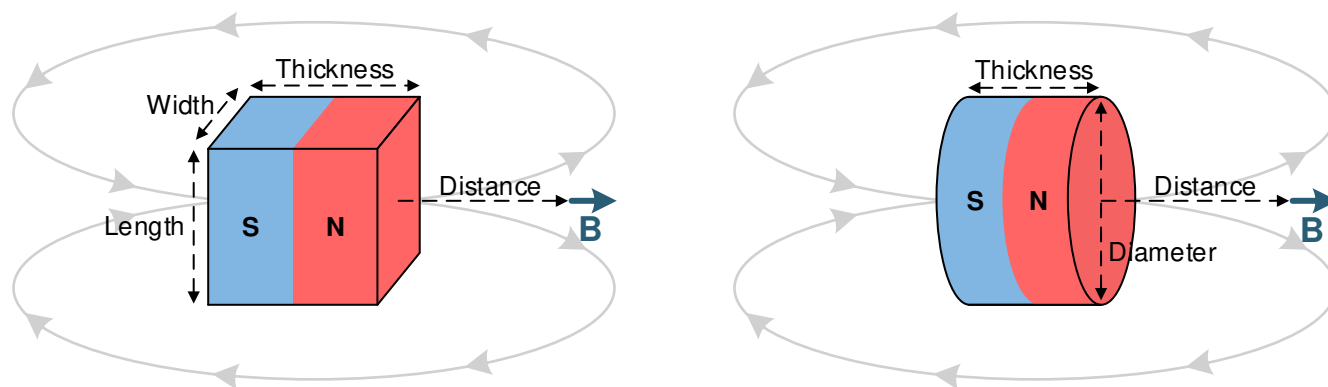

Figure 7-3. Rectangular Block and Cylinder Magnets
Magnets are made from various ferromagnetic materials that have tradeoffs in cost, drift with temperature, absolute maximum temperature ratings, remanence or residual induction (B_r), and coercivity (H_c). The B_r and the dimensions of a magnet determine the magnetic flux density (B) produced in 3-dimensional space. For simple magnet shapes, such as rectangular blocks and cylinders, there are simple equations that solve B at a given distance centered with the magnet. Figure 7-3 shows diagrams for Equation 4 and Equation 5.
Use Equation 4 for the rectangular block shown in Figure 7-3:
Use Equation 5 for the cylinder shown in Figure 7-3: